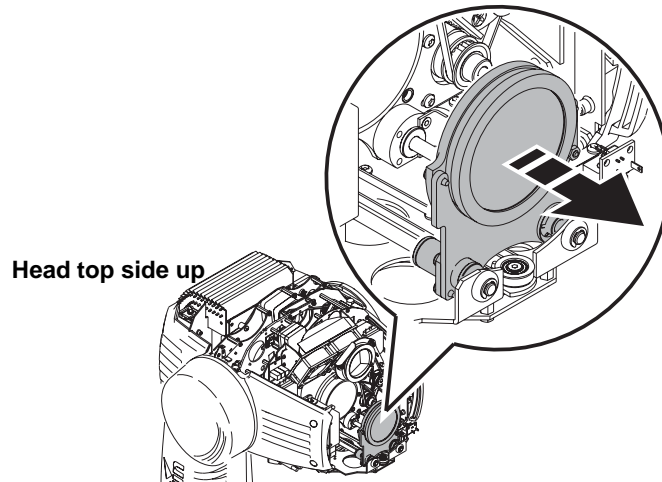

Figure 16: Moving the zoom lens forward
4. Position the head top side up so that you have access through the top. Holding the zoom lens by its base, slide it out to its limit at the front of the fixture as shown in Figure 16.